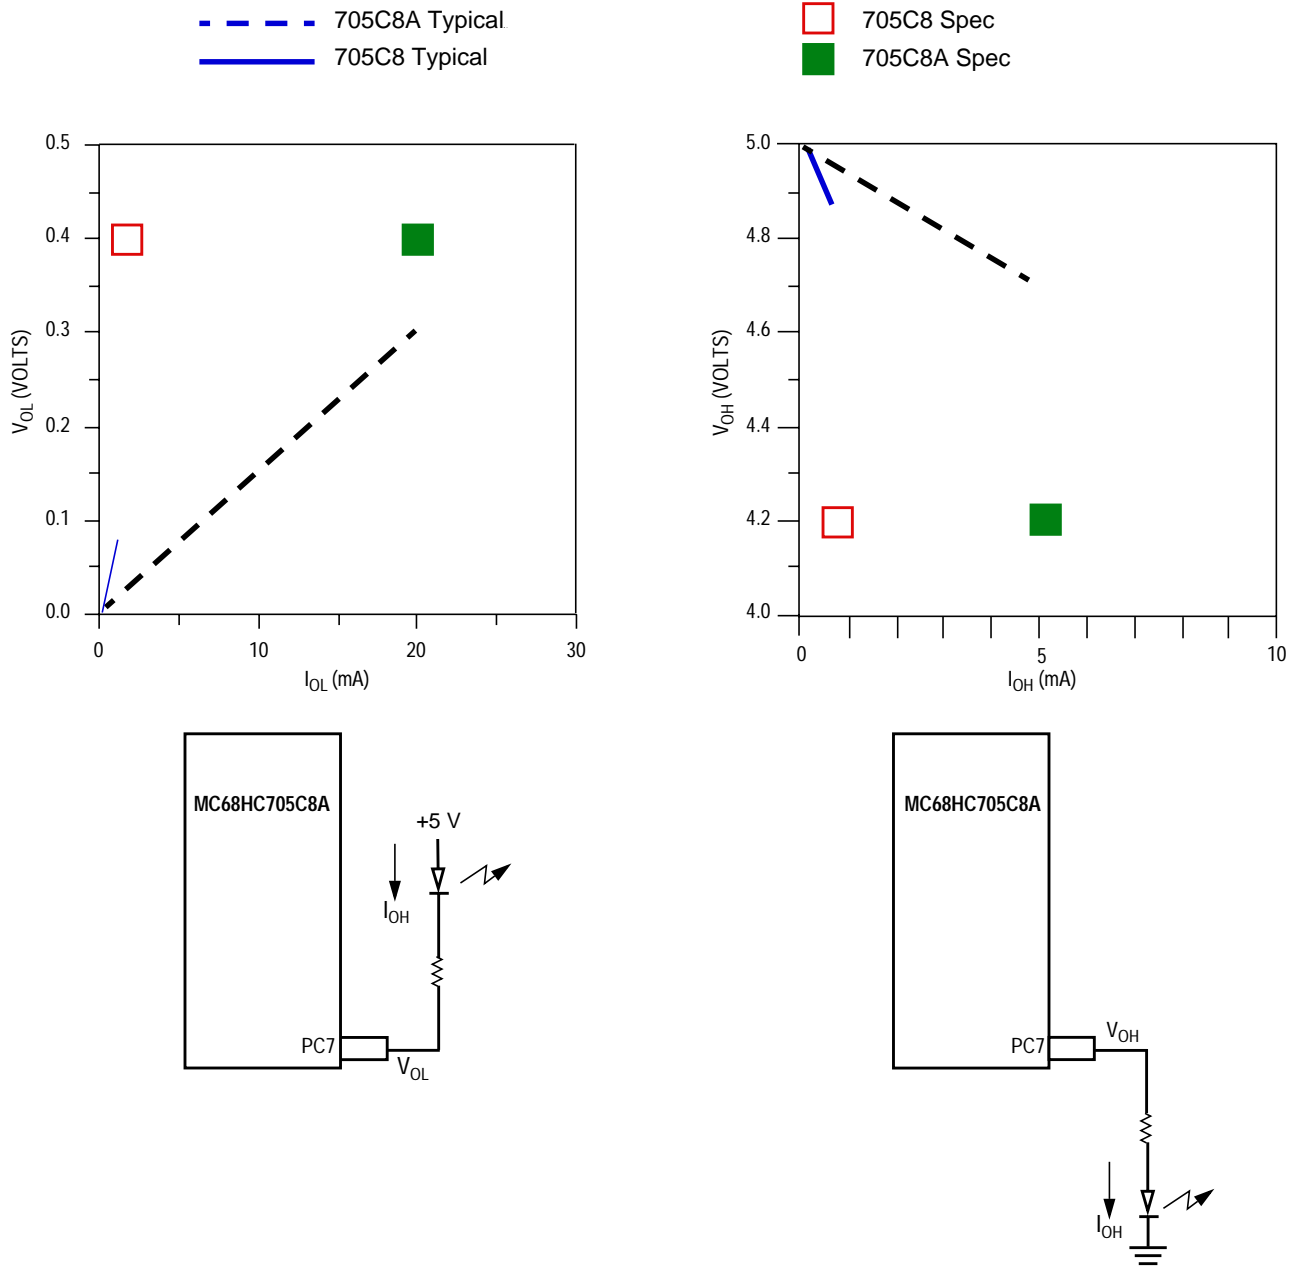

Figure 1. PC7 V_{OL}/I_{OL} and V_{OH}/I_{OH} Comparison of the 705C8 and the 705C8A $V_{DD} = 5.0$ Volts
1. The most significant difference that exists when using the 705C8A as a replacement for the 705C8 is the output current drive capability on the port pin PC7 (port C bit 7) on the 705C8A. The drive current was increased to provide LED drive capability on PC7. The output drive characteristics of PC7 for both the 705C8 and the 705C8A are shown in **Figure 1**. There is no way to reduce the PC7 drive current of the 705C8A to emulate the 705C8.